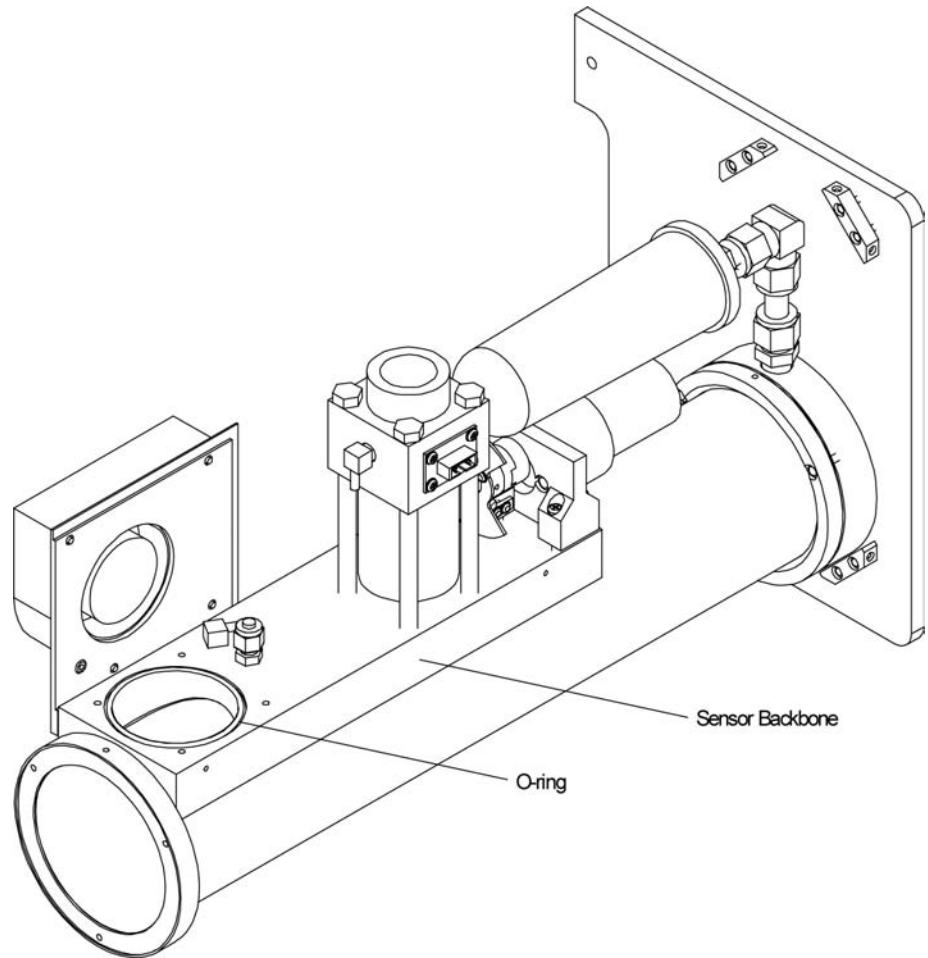

Figure 8-30
- f. Grease the O-ring on the backbone of the sensor (Figure 8-30) and replace the O-ring.